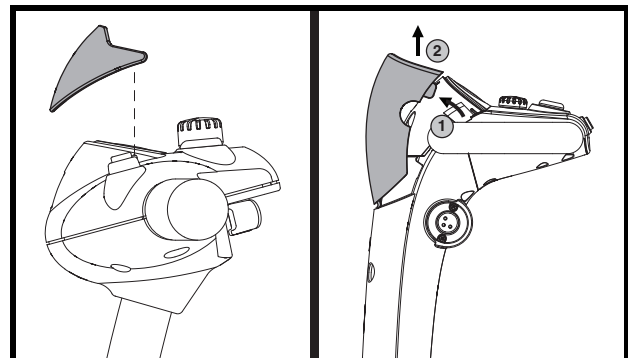

Figure 12. Tiller Console Visor
1. Gently pull the top of the visor away from the tiller console, then slowly lift it up and away from the tiller console. See **figure 12**.